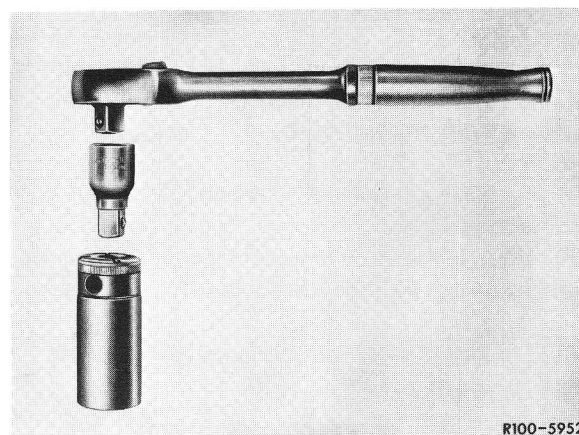

Fig. 2
- 3 For cranking the engine, force cover out of pulley (crankshaft) with a screw driver and position tool combination (Fig. 2) on hex. bolt of crankshaft.